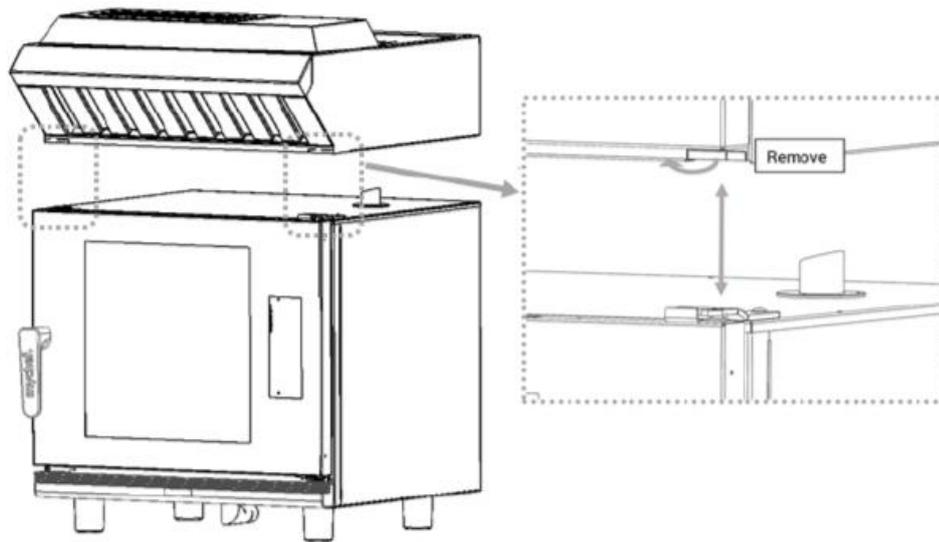

Figure 2. Fit of the hood on the front
Step 2 → Remove the fitting on one of the sides of the hood (depending on which side the oven hinge is on) for correct positioning. (see figure 2).